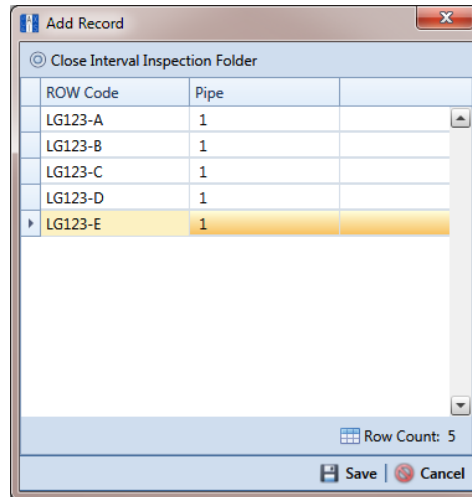

Figure 6-5. Add Record
- 5 Click the **+** **Add** button to open the *Add Record* dialog box (Figure 6-5, page 189).